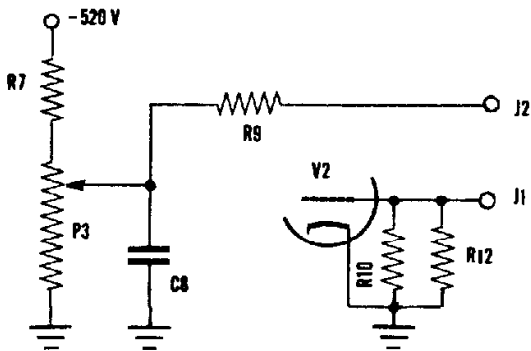

Fig. 7
- Fig. 7. Leakage check circuit in "PAPER-MICA TEST" position. R9 slows down charging process so that electron-ray tube action will not be too fast for detection by the operator.
- Fig. 8. Leakage check circuit in "ELECTROLYTIC TEST" position. Note that R11, 2.2 KΩ, provides reduced electron-ray tube sensitivity as compared to the circuit of Fig. 7.